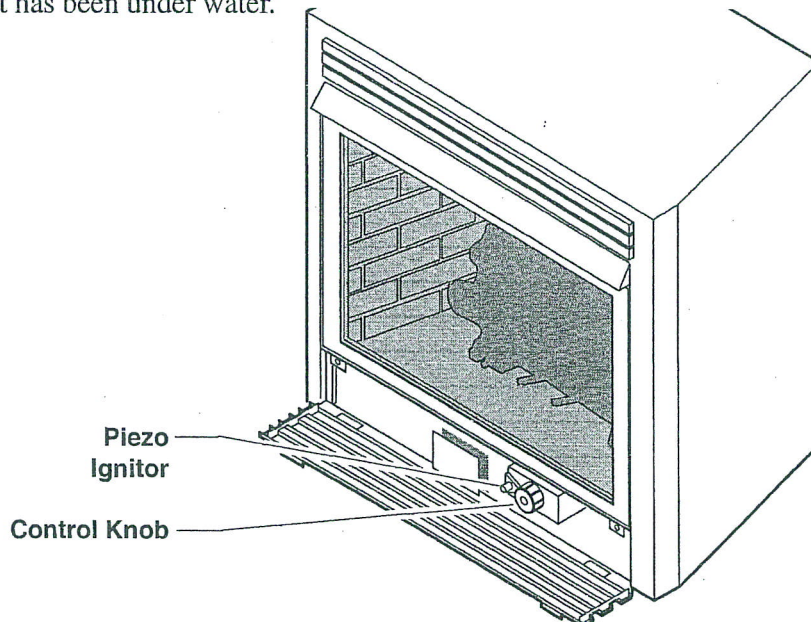

Figure 25: Location of Piezo Ignitor & Control Knob
4. Refer to *Figure 25* for the location of the piezo ignitor and control knob. Push in gas control knob slightly and turn control knob clockwise to the OFF position.